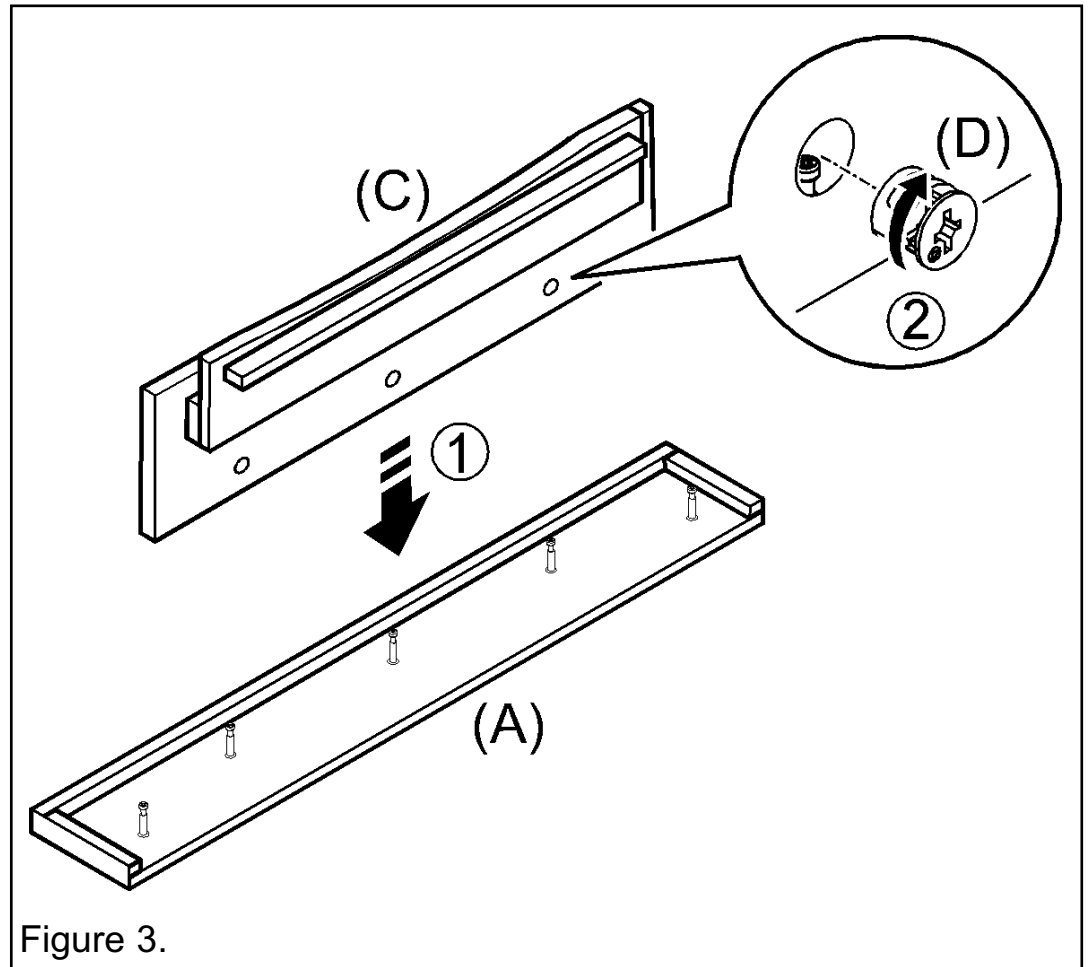

Figure 3.
- Locate the fascia (C) onto the cam bolts in surround top (A) as in figure 3.
- Secure in place using three cam locks (D) as in figure 3.